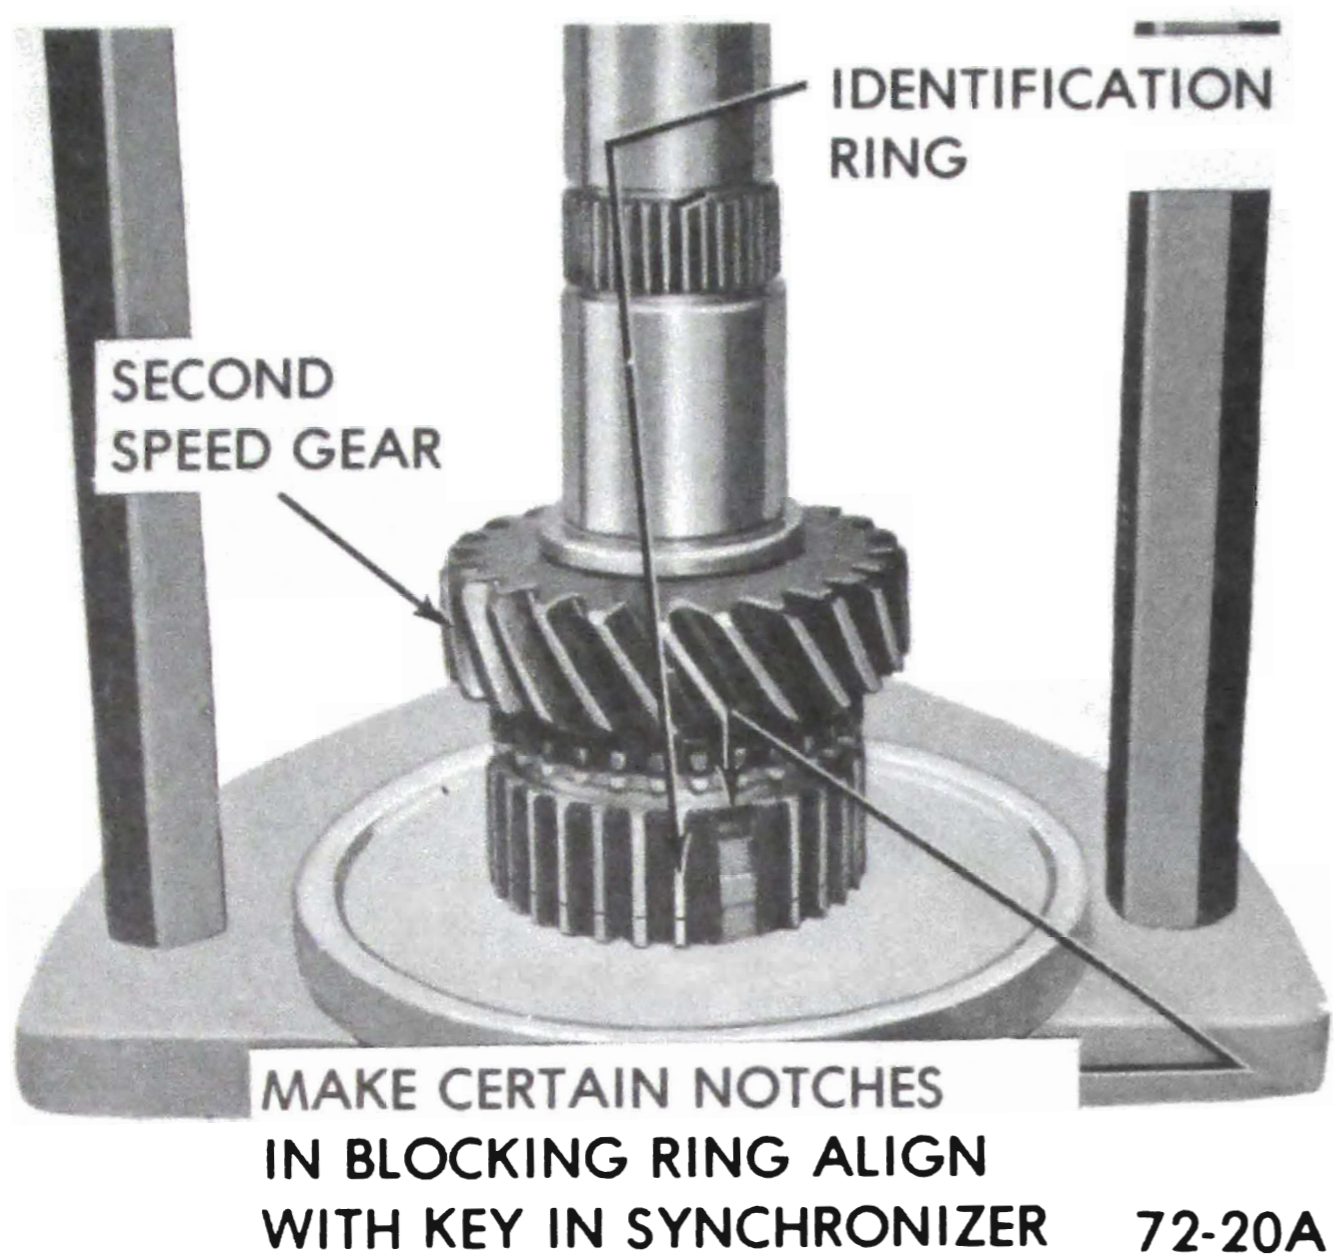

Figure 72-18 · Installing Second Speed Gear
1. Install second speed gear blocking ring on mainshaft. Using ram press or arbor press and Press Plate J-8609, press second-third speed synchronizer assembly (with identification ring toward front of transmission) onto mainshaft. See Figure 72-18. Install retaining snap ring.